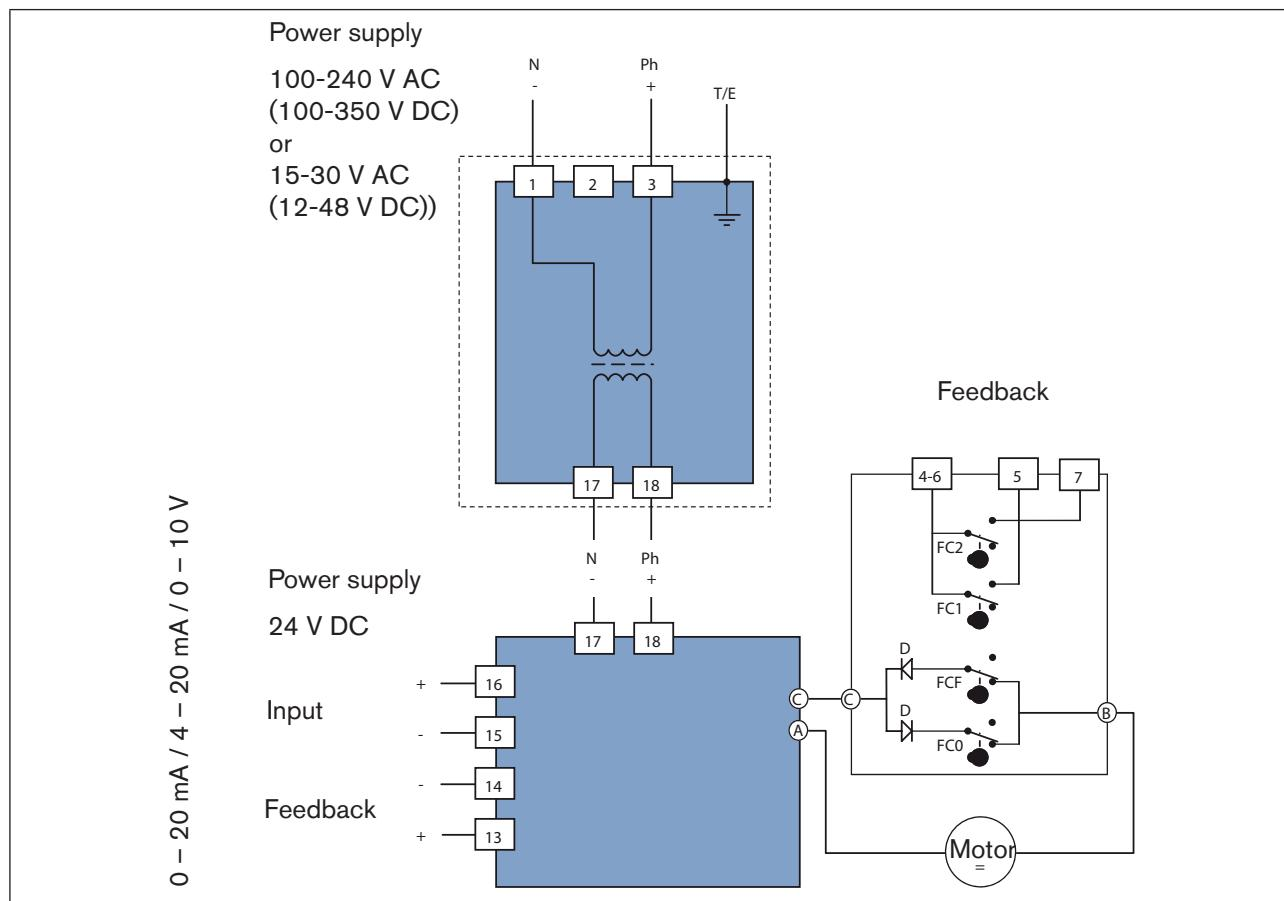

Figure 19: Circuit diagram
- Connect cable according to the circuit diagram (see “Figure 19”) to the terminal strip Pos. 14 of the power supply card (see “Figure 1”, page 10 and “Figure 2”, page 11).
→ Connect cable to the terminal strip 12 (see "Figure 1", page 10 and "Figure 2", page 11) according to the schematic (see "Figure 19").